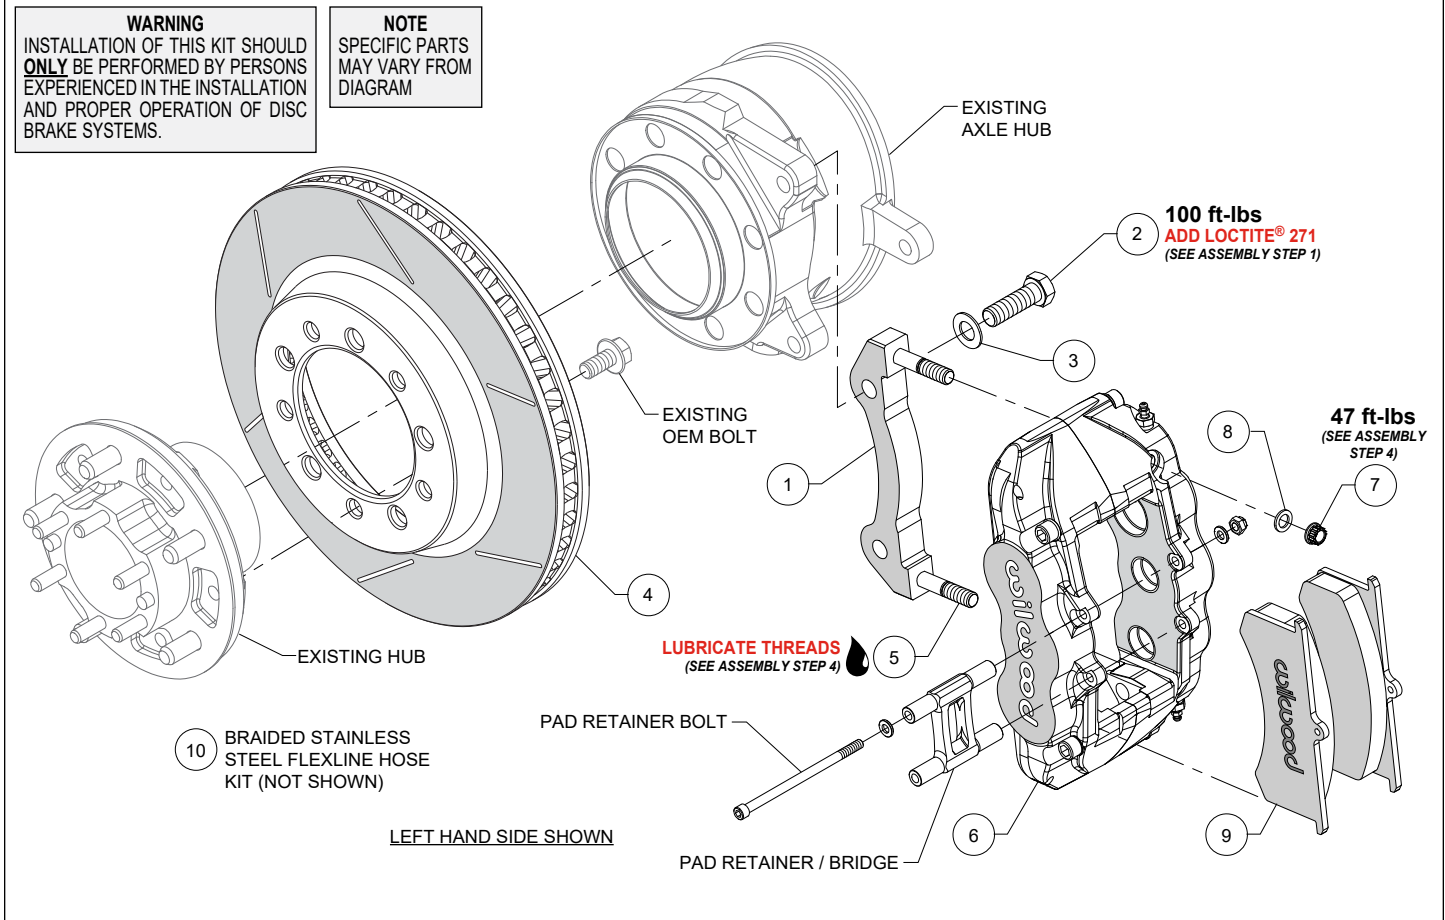

Figure 1. Typical Installation Configuration
NOTE: Numbers in parenthesis refer to the parts list and Figure 1 on the preceding pages.
STEP 1 The caliper mount bracket (1) should initially be installed with clean, dry threads on the mounting bolts. Orient the bracket as shown in Figure 1 and Photo 1, and install using bolts (2) and washers (3). Temporarily tighten the mounting bolts. **NOTE:** The bracket must fit squarely against the mounting points on the upright. Inspect for interference from casting irregularities, machining ridges, burrs, etc. Remove the bracket mounting bolts one at a time, apply red *Loctite*[®] 271 to the threads, and torque to value shown in Figure 1.
STEP 2 Orient the rotor (4) and the OEM hub as shown in Figure 1 and Photo 2. Attach rotor to hub using saved OEM bolts and torque to OEM specifications. **NOTE:** The rotor must fit flush against the axle hub or excessive rotor run out may result.
STEP 4 **NOTE:** This kit contains distinct right and left hand calipers that must be mounted in a specific direction, as described below. Lubricate the caliper mounting studs (5) with lightweight oil. Mount the caliper (6) onto the bracket (1) using lock nuts (7) and washers (8), Figure 1. Ensure that the caliper is mounted so the largest pistons are at the rotor exit end of the caliper, in relation to the direction of rotor rotation. Torque lock nuts (7) to value shown in Figure 1.
STEP 5 Remove the caliper pad retainer bolts, nuts, washers, and pad retainer bridge from the caliper. Insert the brake pads (9) into the caliper, with the friction material facing the rotor, as shown in Photo 3. Secure the brake pads in place with the pad retainer bridge, bolts, washers, and locknuts, Photo 4. The locknuts should be snug without play in the bolts or pad retainer bridge. Be cautious not to over tighten.
STEP 7 Attach supplied brake line to caliper. **NOTE:** OEM rubber brake hoses generally cannot be adapted to Wilwood calipers. Install Wilwood's stainless steel braided flexline hose kit (10), P/N 220-15714 included with this kit, as shown in Photo 5. The caliper inlet fitting is a 1/8-27 NPT. Use the included steel adapter fitting at the caliper (use PTFE tape on the pipe threads of adapter fitting for proper sealing to caliper). **Ensure hoses are routed to prevent contact with moving suspension, brake or wheel components.**